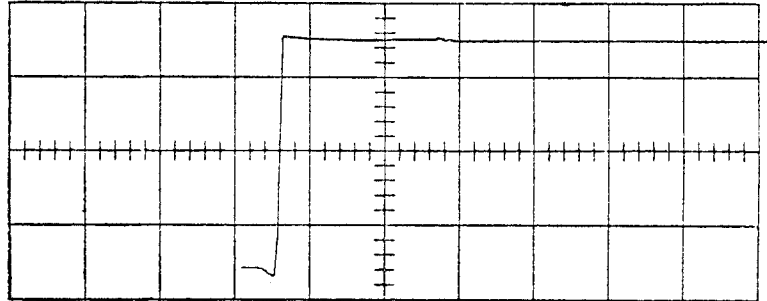

Fig. 4. Illustrating sloping characteristic in the waveform caused by defective V1014 and/or V1024 (or V1025 and/or V1040 in older oscilloscopes).
2. a. Does the waveform have a sloping characteristic following the corner (Fig. 4)? If it does, the fault likely lies in